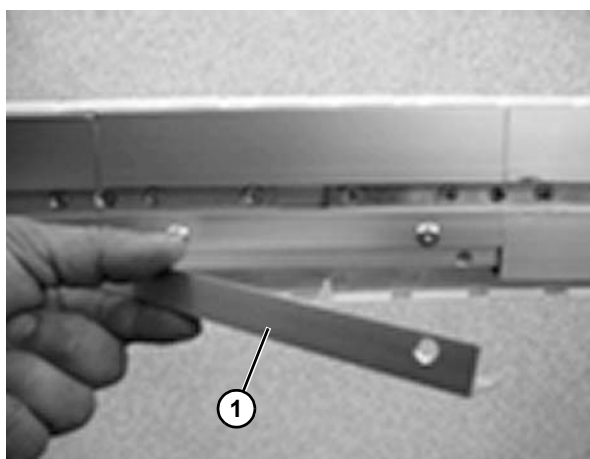

Figure 58
2. Remove the flange (**Figure 58, item 1**) so that the chain becomes accessible.